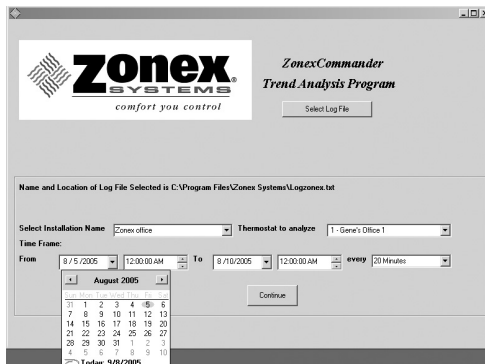

Fig. 36
- A calendar resides in the trending software package (see Fig. 36). Enter the From/To date and time range you want to review.